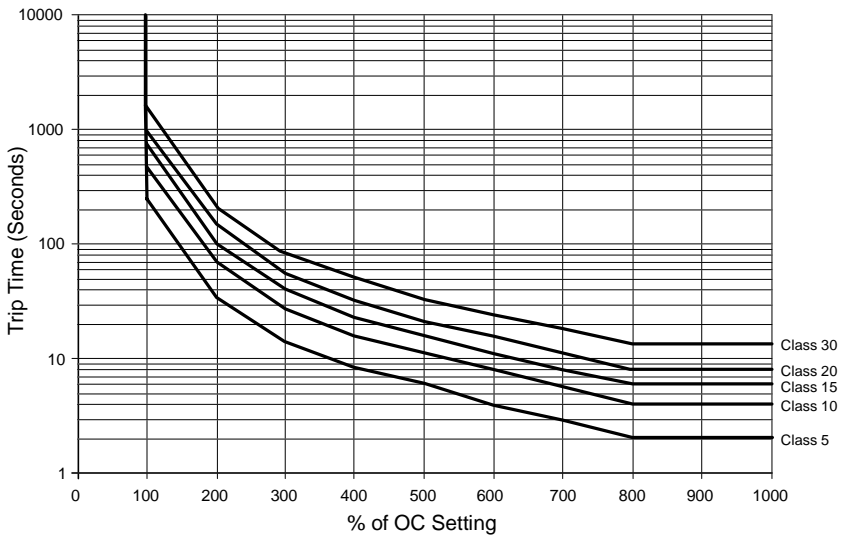

Figure 4: Overload Trip Curves
- OC**- OC (overcurrent) is typically set to the service factor amperage (SFA) of the motor or 100-115% of motor full-load amps, which are determined by the motor manufacturer. If any one leg exceeds the OC setting, the 777-P will follow the TC settings to determine when to trip; in seconds or by following the trip class curve (see Figure 4).
- TC** - The TC (trip class) setting determines how quickly the 777-P will trip when an overload (overcurrent) condition is detected. TC is a dual-function setting—both a thermal trip class (NEMA standard) and a linear trip delay (in seconds) can be set to establish when the 777-P will trip on overcurrent. While the standard trip classes are 5, 10, 15, 20, and 30, TC can be set from 2–30, with or without jam protection. These additional “non-standard” trip classes allow the unit to follow a trip curve in-between the “standard” trip class curves shown in Figure 4.
- The motor manufacturer should be contacted for an exact TC setting. Table 3 describes the trip classes, and Figure 4 shows the trip class curves.
- RD3** - RD3 (restart delay three) is the restart timer, in minutes (standard), used after an underload (LP) trip. It is also known as a dry-well recovery timer in pumping applications. This would be the time it takes a well to recharge after pumping dry. This setting varies widely from application to application and there is no typical setting. RD3 can be set from 2-500 minutes or to A to enable the automatic Dry-Well Recovery Calculator.